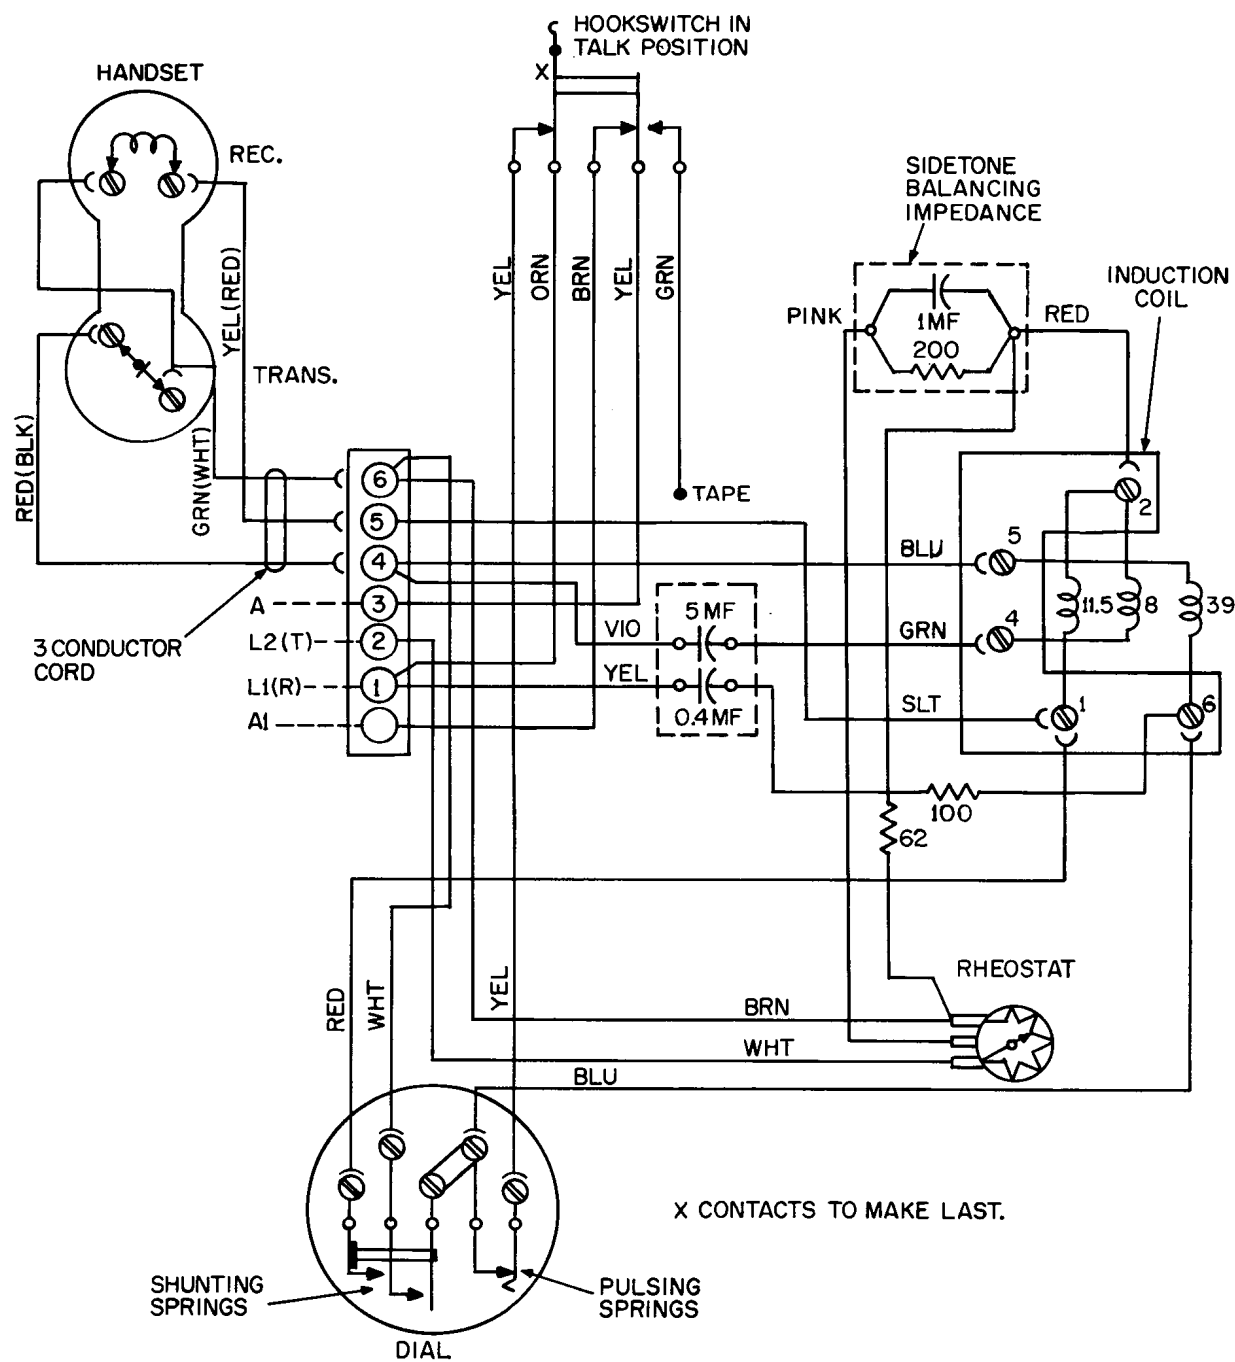

Figure 1. Wiring Diagram of Modified Type 83 Telephone Set.
2.01 The wiring diagram of a Type 83 telephone set is shown in Figure 1 as modified for key system operation. The modification procedure is set forth in steps (1) through (6) below.